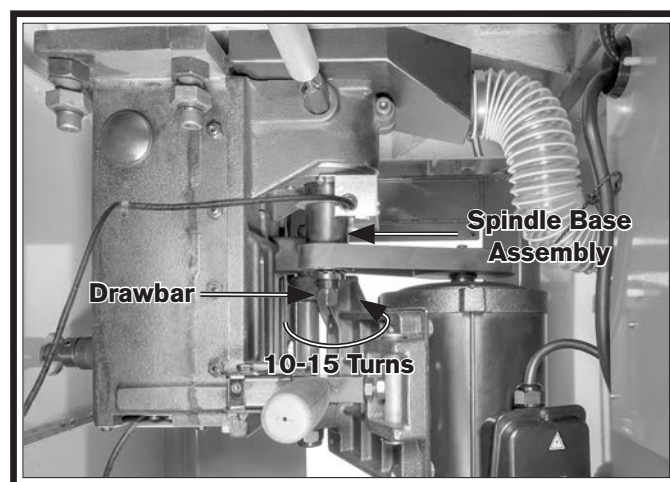

Figure 20. Drawbar inserted into bottom of spindle base assembly.
7. Insert drawbar into bottom of spindle base assembly, up through spindle pulley and assembled parts, and rotate approximately 10-15 turns (see **Figure 20**).